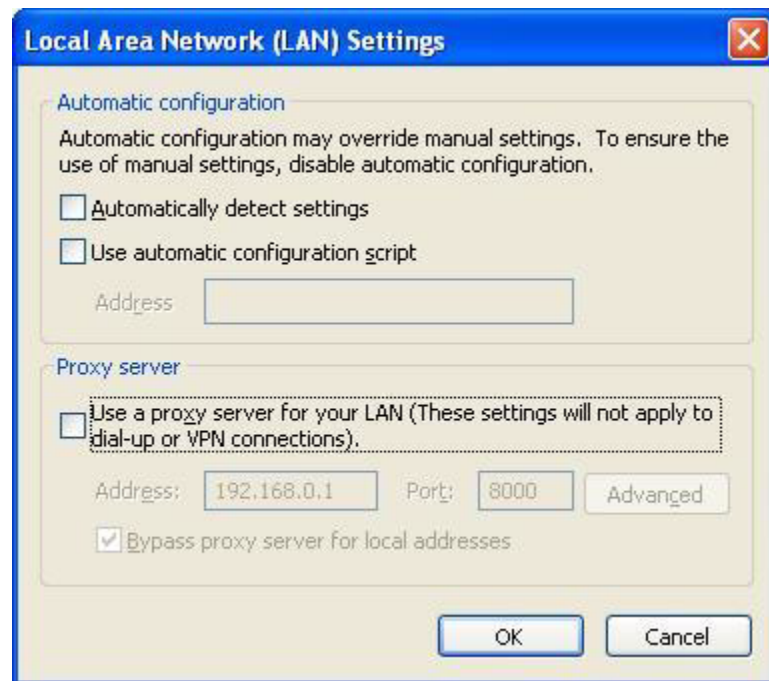

Figure A-6 · Clearing Check Box for “Use a proxy server for your LAN”
5. Clear the check box for “Use a proxy server for your LAN...” (Figure A-6).